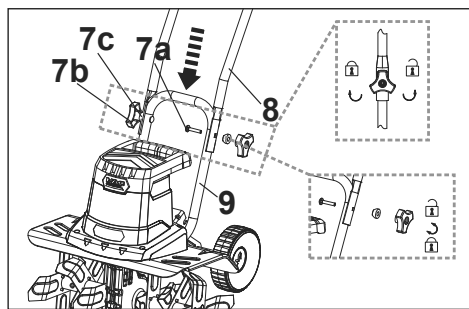

Fig. 1
2. Align the holes in the middle handle bar (8) with the holes in the lower handle bar (9) and secure the connection with the bolts (7a) and levers (7b) & washers (7c) (Fig. 1).